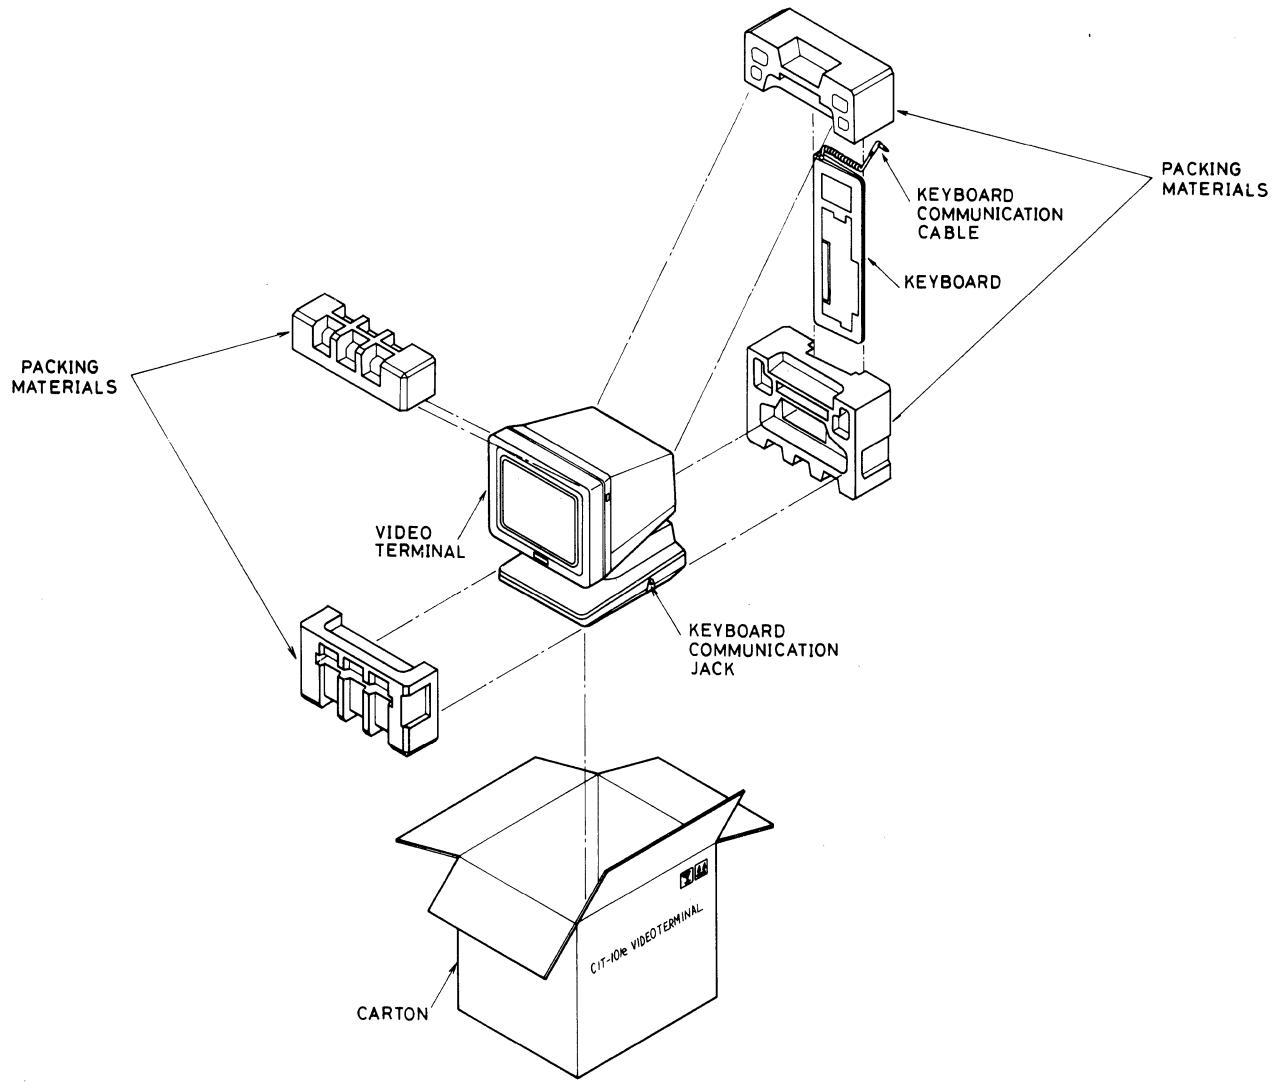

Figure 2-1. CIT-101e Unpacking
The CIT-101e is shipped complete in one shipping container. Refer to the following steps and Figure 2-1 to unpack the CIT-101e.
2. Open top of carton and carefully remove contents as shown in Figure 2-1.
2.6.2.1 Keyboard Cable Attachment. Plug keyboard cable connector into jack located at middle right side of the video terminal base, refer to Figure 2-1.